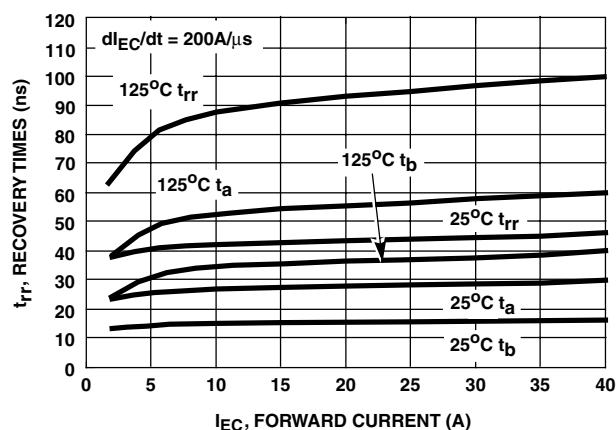

FIGURE 20. RECOVERY TIMES vs FORWARD CURRENT
- Values for two Turn-On loss conditions are shown for the convenience of the circuit designer. E_{ON1} is the turn-on loss of the IGBT only, E_{ON2} is the turn-on loss when a typical diode is used in the test circuit and the diode is at the same T_J as the IGBT. The diode type is specified in Figure 20.